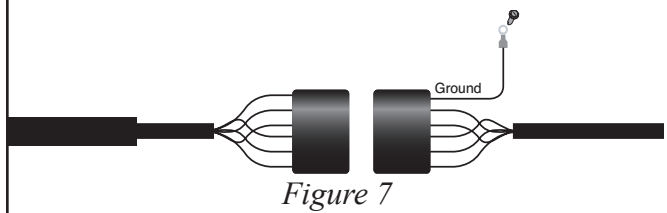

Figure 7
10. Attach the terminal end of the ground wire to a clean section of the framerail using the provided self-tapping screw. (Figure 7).